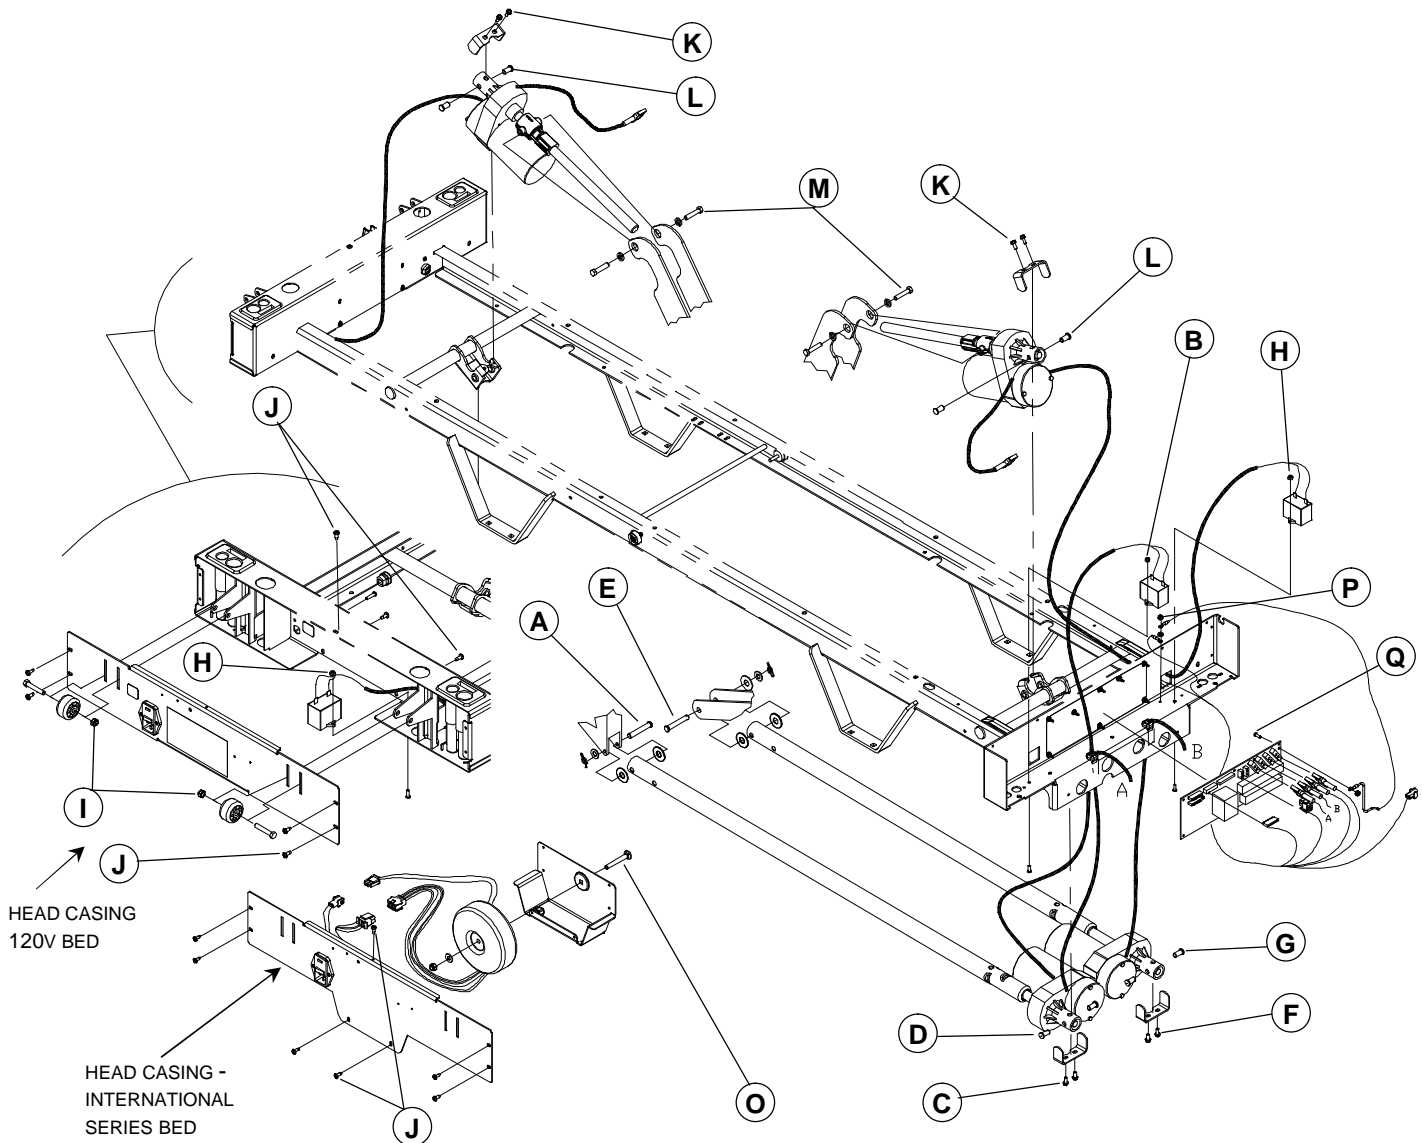

Figure 4.3C
5. Using long nose pliers, remove the rue ring cotter/washers/clevis pin (E, fig. 4.3C, page 29) linking the thigh section lever arms to the thigh actuator tube.